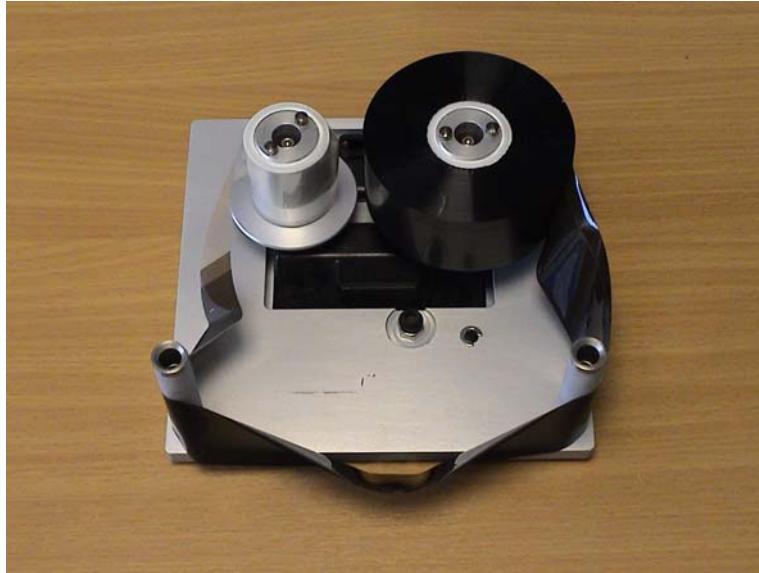

Figure 5-13: Ribbon Spool Complete
- 8 Slide the empty spool completely down onto the holder that has a silver disc (Figure 5-13 on page 5-10).